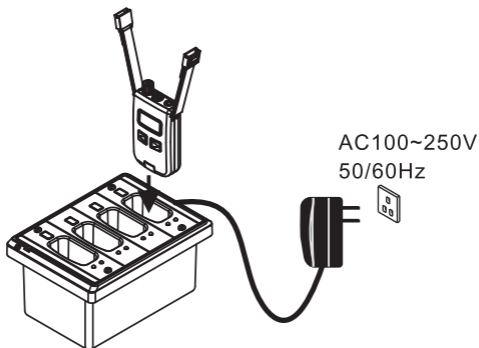

Fig. 23
- (C) MTG-100C-4: Plug the power cord into the DC mains input socket and then plug the adaptor into an AC power outlet. Then the power indicator lights, Fig. 23.